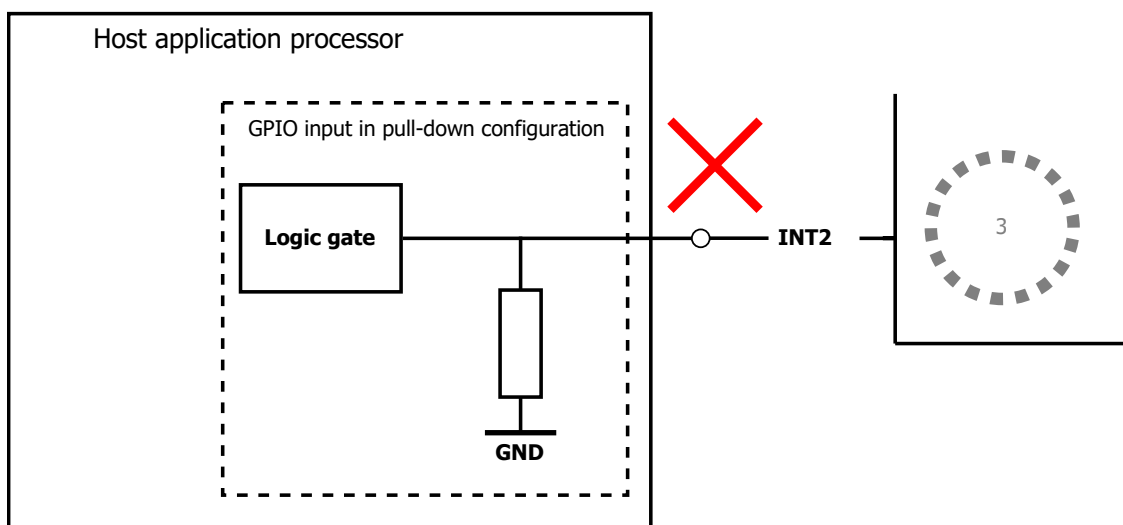

Figure 55: Connection that is not allowed in I²C and I³C before the pin 3 is configured to the output characteristics
- When the output characteristics of pin 3 is disabled (or not yet enabled), please do not connect pin 3 to a GPIO pin configured in the pull-down state, as shown in figure 55. Please consider this behavior especially during the startup of the device, since pin 3 is used in SPI Mode as CSB and therefore a connection to ground will trigger the SPI mode.